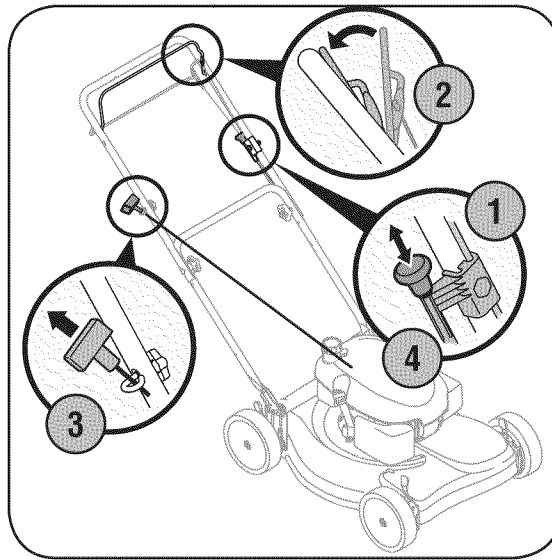

Figure 4-2: Steps to start mower.
1. Pull out the choke knob located on the left side of the upper handle. See Figure 4-2.
3. Pull the starter grip lightly until resistance is felt, then pull rapidly to overcome compression, prevent kickback and start engine. Repeat if necessary. See Figure 4-2.
4. When engine warms up, push in the choke knob. See Figure 4-2.